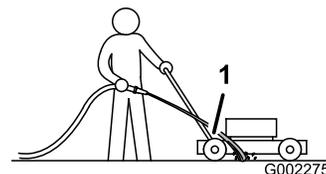

Figure 25
3. Hold the running garden hose at handle level and direct the water to flow on the ground just in front of the right rear tire (Figure 25).